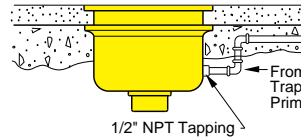
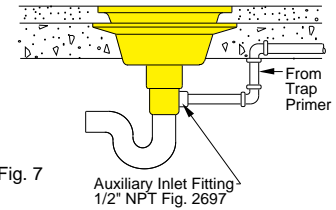

Fig. 6
Fig. 7
3) **TRAP PRIMER CONNECTION:** To indicate a trap primer connection on a Smith stainless steel SANI-CEPTOR body, add Suffix -P to the figure number selected. Connection is located on vertical C/L 2" above bottom of drain (Fig. 6). These connections are not recommended for A.R.C. SANI-CEPTORS because the exposed pipe threads rust causing an objectionable discoloration on the A.R.C. wall. When a trap primer connection is needed for A.R.C. applications, Smith recommends the use of Auxiliary Inlet Fitting Fig. 2697 (Fig. 7).